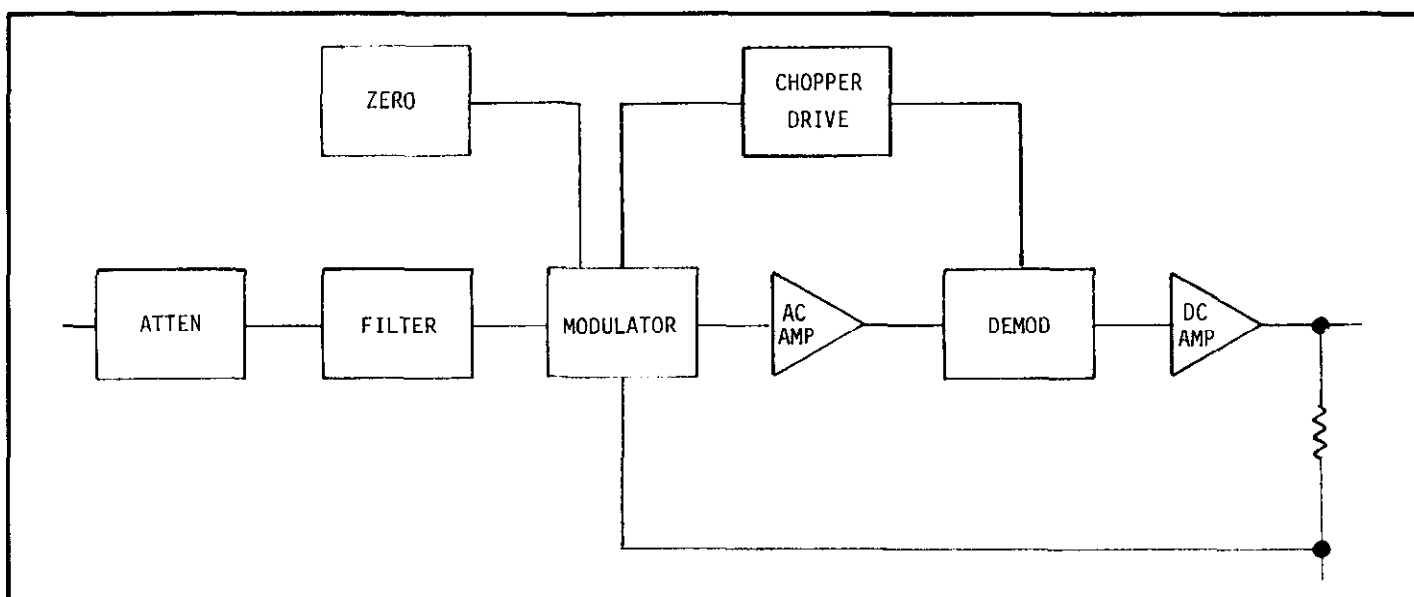

FIGURE 10. Analog Amplifier Block Diagram.
3-2. ANALOG AMPLIFIER OPERATION. A simplified block diagram of the analog amplifier is shown in Figure 10.
3. Feedback Rezeroing Circuit. This circuit provides rezeroing of the Integrator circuit using negative feedback from the Zero Crossing Detector output. Transistor Q411 is the equivalent of Switch S_b in Figure 10. Resistor R434 and capacitor C414 form a feedback-loop filter circuit. Diodes D407 and D408 provide fast response for large input offsets due to input overloads.